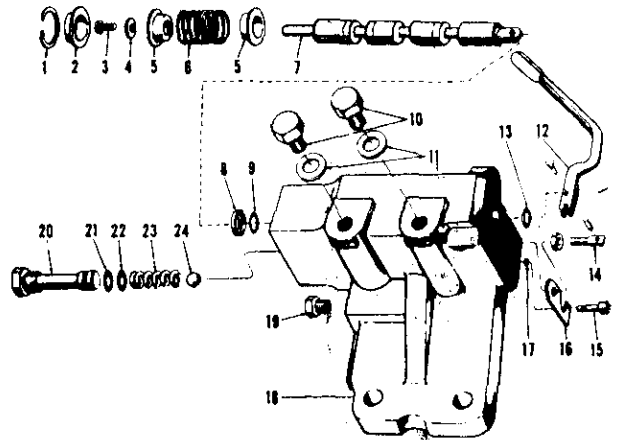
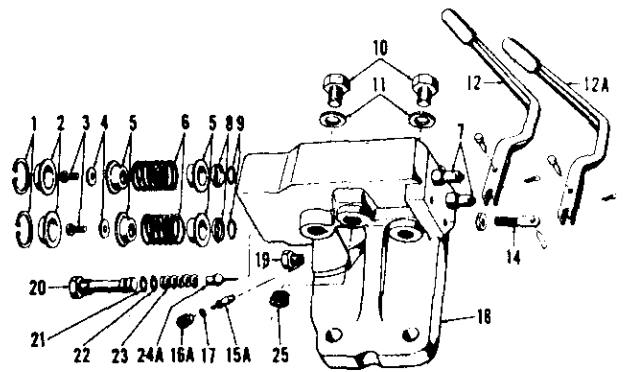

Fig. 425—Exploded view of single spool remote control valve without spool detent mechanism.
Fig. 426—Exploded view of two spool remote control valve without spool detent mechanism. Valve spools (7) are not shown removed; refer to (7—Fig. 425).
Single spool or double spool remote control valves, with or without detents, have been used on the model 2000, 3000 and 4000 tractors. Refer to Fig. 425 for an exploded view of the single spool, no detent valve, and to Fig. 426 for double spool, no detent valve, used prior to production date 5-70 (8-70 double spool).
370. Exploded views of the single spool and double spool remote control valves without spool detent are shown in Figs. 425 and 426. Either valve can be used with single or double acting remote cylinders. On single spool valve, open (turn out) the switch valve (15—Fig. 425) to operate a single acting remote cylinder from "LIFT" port of valve. On the double spool valve, back the Allen head screw (16A—Fig. 426) out two or three turns to operate a single acting cylinder from the "No. 1 LIFT" port. The valve levers must be held in raising or lowering position as the valve spools do not have detents. If valve is held open after cylinder reaches end of stroke, the tractor hydraulic system relief valve will open at approximately 2500 pounds pressure.
373. CONTROL VALVE SPOOLS, CENTERING SPRINGS AND SEALS. Remove the control levers by removing the clevis pins retaining lever to valve spools, then pull levers from pivot pins in the adjusting screws (14—Fig. 425 or 426). Remove the snap rings (1) that retain centering spring caps (2), then push or tap on rear (lever) end of valve spools to remove the valves (7), centering spring (6) assemblies and caps from front end of valve body. NOTE: On double spool control valves, be sure to tag the valve spools as they are removed as each valve is a select fit and not interchangeable. Remove screws (3) from ends of valve spools to remove centering springs (6), spring cups (5) and washers (4). Using a slide hammer with small internal pulling attachment (Nuday tool No. 7600-E or equivalent), remove the seal retainers (8) from valve bores. Remove the "O" rings (9 and 13) from valve spool bores.
To reassemble, proceed as follows: Lubricate the control valve spools and insert them into front (centering spring) end of valve body. Push the spools rearward so that rear ends are even with the "O" ring groove in valve body. Lubricate the "O" rings (13—Fig. 426) and using rear ends of valve spools as "back stops," insert the "O" rings in grooves in valve bores. Push the spools on through the "O" rings so that they extend about 3/4-inch from rear of valve body. Lubricate the front "O" rings and push them into bore around the front ends of valves, then install the retainers (8) using a special driver (Nuday tool No. N-651 or equivalent). Reinstall the centering springs and cups, flat washers, retaining screws, caps, snap rings and control valve levers.
375. DOUBLE SPOOL SWITCH VALVE. Using an Allen wrench, remove the set screw (16A—Fig. 426). Then, using needle nose pliers, pull the valve (15A) from valve body; remove